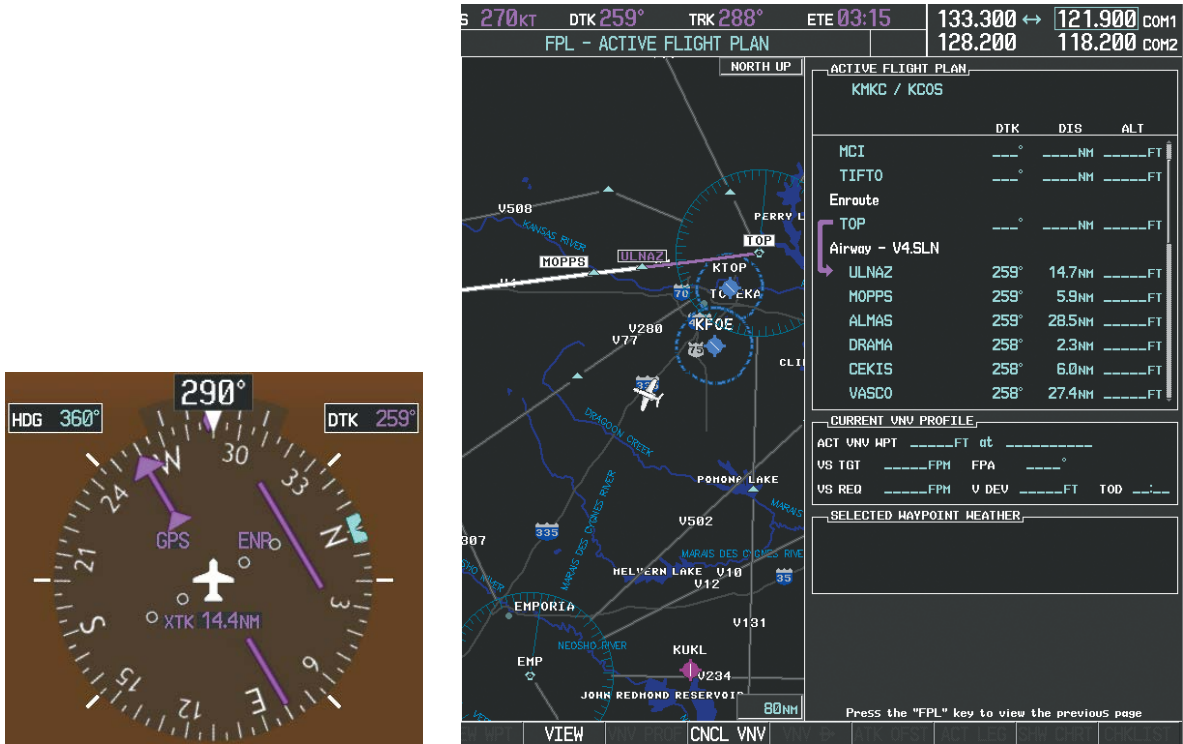

Figure 5-123 V4 Now Active Leg
d) Verify the displayed leg is the desired leg and press the **ENT** Key. Note in Figure 5-123, the magenta arrow in the flight plan window and magenta line on the map indicating V4 is now the active flight plan leg. Note the phase of flight remained in Terminal (TERM) mode up to this point because a departure leg was active. Since a leg after the departure is now active, the current CDI flight phase is ENR (Enroute) and CDI scaling has changed to 2.0 nm.